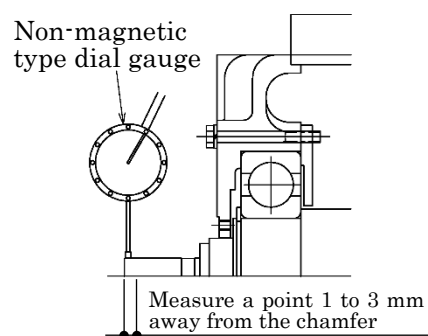

Fig.15 Runout measurement of oscillator mounting shaft
- (13) Pull out the bearing from shaft by the puller. (As to the details of replacement work of bearing, refer to item V-2.)
- (14) After completion of replacement work of bearing, carry out assembly work under reversed procedure of disassembly. Align the matchmarks marked at the time of disassembly and tighten the bolts of diagonal positions alternately in order to avoid uneven tightening. Also, apply grease (Three Bond 1805 spray type) to the lip of the V ring. The shaft runout for mounting the encoder should be 0.05 mm or less at TIR. The measurement method of shaft runout is according to Fig.15. At that time, use a non-magnetic dial gauge. If the dial gauge is not nonmagnetic, it may not be possible to measure shaft runout correctly.
- 2) Even for the cases of removing and re-mounting of pulse oscillator at the times of replacement, etc. of bearing or pulse oscillator, setscrew position for fixing the pulse oscillator rotor is determined to make that the magnetic pole position detection of the rotor of motor is same. As shown in Detail of A-A Cross Section of Fig. 15 of Page 16, when one of 2 positions of setscrew M4 is coincided with flat cut position of motor shaft (one position of motor shaft, where setscrew contacts, is flat surface), mount the other setscrew arranging that it surely comes to the position turned 90° to counterclockwise seen from the non-load side shaft end (position where motor shaft is not cut flatly).